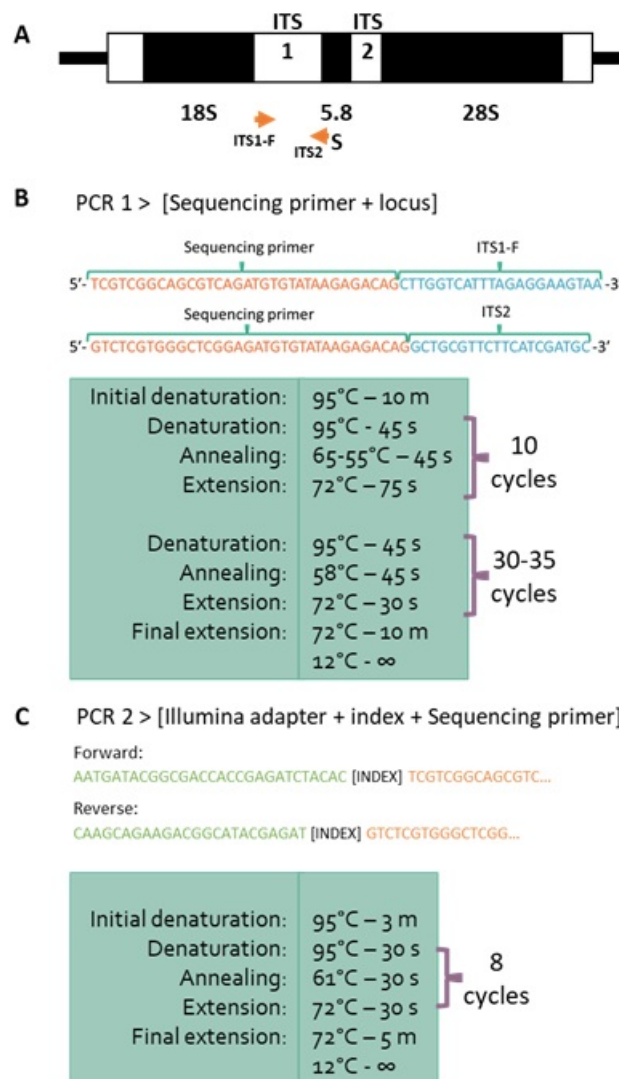

Figure 3. PCR strategy to obtain the amplicon library.
A two-PCR strategy is followed to obtain the amplicon libraries for Illumina sequencing. The first PCR includes the ITS1F and ITS2 primers attached to a Sequencing primer (Figure 3-B), and the second PCR is designed for the attachment of the Illumina adapter and barcode (identification sequence of each sample) (Figure 3-C).
- 70 Prepare a master mix by multiplying the volume of each PCR reagent (Table 2) times the number of samples to be processed and add an extra 10% to account for pipetting errors. The Touchdown PCR program is indicated in Figure 3-B.